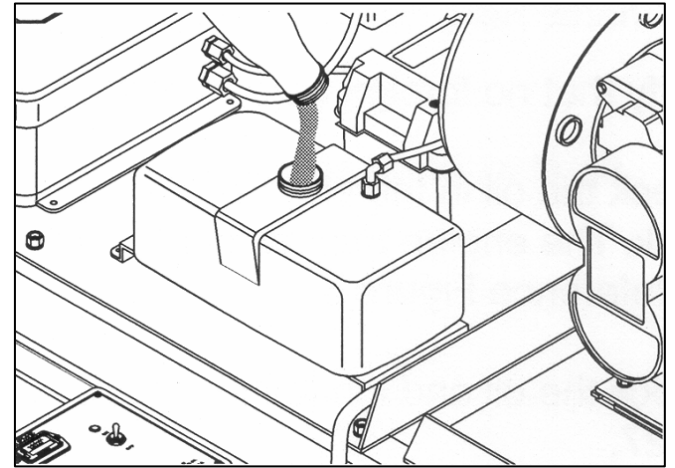

Fig. 59. Adding flushing solution.
- 13. Place flushing solution in the clear plastic 1-gallon tank located on the base plate between the blower and the PDS flow control box. Diesel fuel or transmission fluid can be used as alternatives, (Fig. 59).
- 16. On the Remote Control Station (Fig. 59):